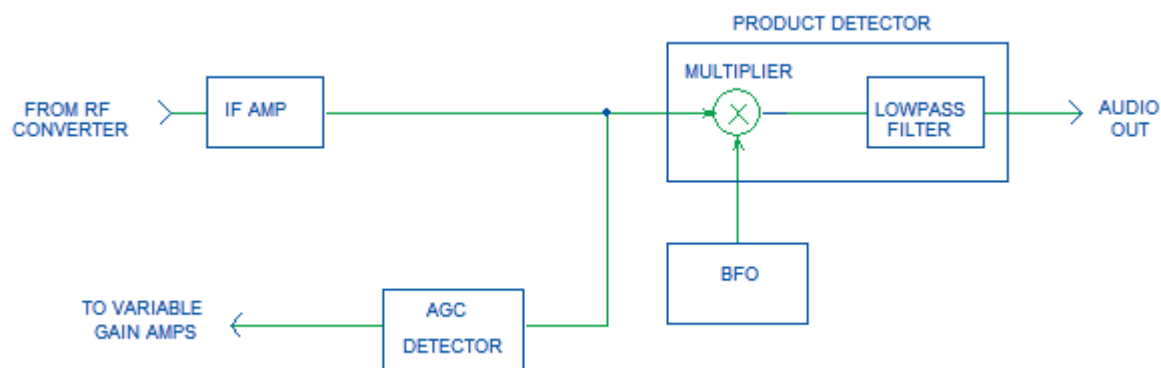

Figure 6 – Modern Receiver with Product Detector
Figure 6 shows a modern receiver using a Product Detector (PD). The PD is, as its name implies, a multiplier followed by a low-pass filter. As such, it multiplies  $F_{if}$  and  $F_{bfo}$ , ideally producing two (and only two) outputs:  $F_{if}+F_{bfo}$  and  $F_{if}-F_{bfo}$ . Many of you will recognize these two frequencies to be the same as those at the output of an ideal “mixer” circuit in the RF and IF stages of a superheterodyne receiver. The reason is that a mixer and a PD perform the same mathematical function. The math function can be written in the form of the trigonometric identity: